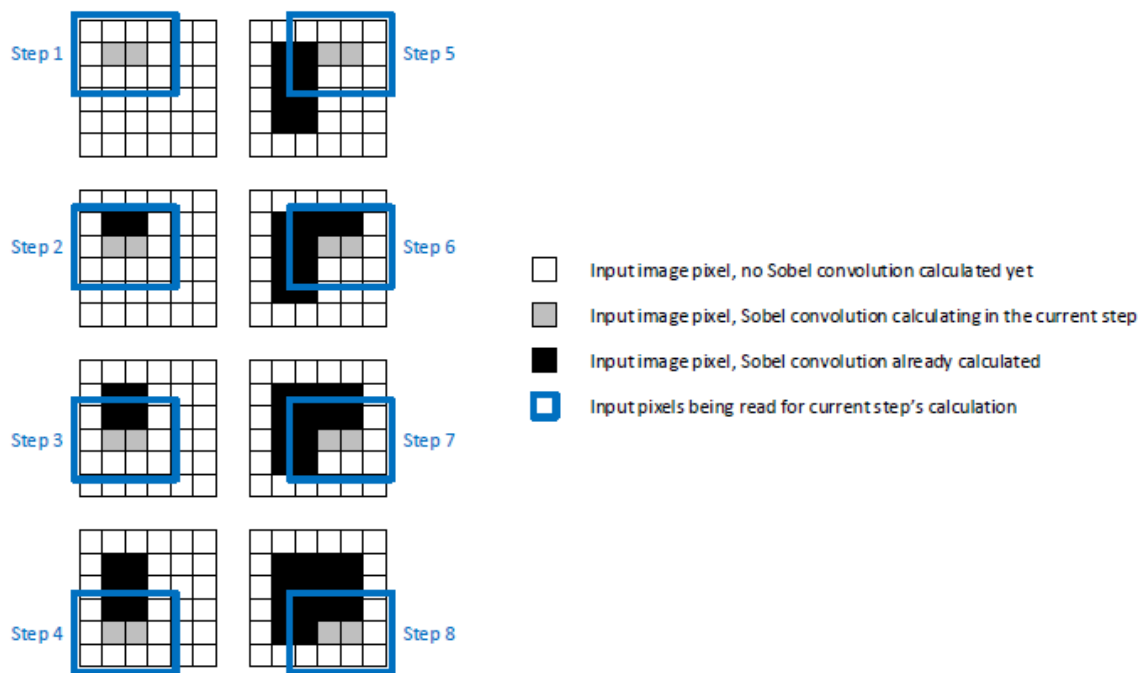

Figure 4.1: Illustration of high-level Sobel accelerator control flow.
Figure 4.1 demonstrates the hardware's control flow for a 6-by-6 input image in which 2 columns are processed simultaneously. The result is a 4-by-4 output image computed over 8 steps. The hardware detects the bottom of the image in step 4, thus causing a switch to the next column strip, and detects the completion of its processing in step 8, after which it signals completion to the host processor. Notice that, when moving from one column strip to the next, there is some overlap in terms of the columns consumed as input (refer to the blue rectangles). In step 1, the accelerator is consuming columns 0, 1, 2, and 3, while in step 5, the accelerator is consuming columns 2, 3, 4, and 5.
As shown in Figure 4.1 and noted previously, the progression from one step to the next involves the re-use of two of the already-processed rows of inputs and only requires a single row of new input data. The `sobel_image_rowregs` module captures the required behavior in the form of what is essentially a two-dimensional shift register; the blue rectangles in Figure 4.1 show the pixels contained in the shift register at each step in the hardware's operation.
- **Shift Rows:** place the incoming data in row 3, move old row 3 data to row 2, move old row 2 data to row 1, and discard old row 1 data. This operation is what is reflected in the blue rectangle as it progresses from one step to the next in Figure 4.1.